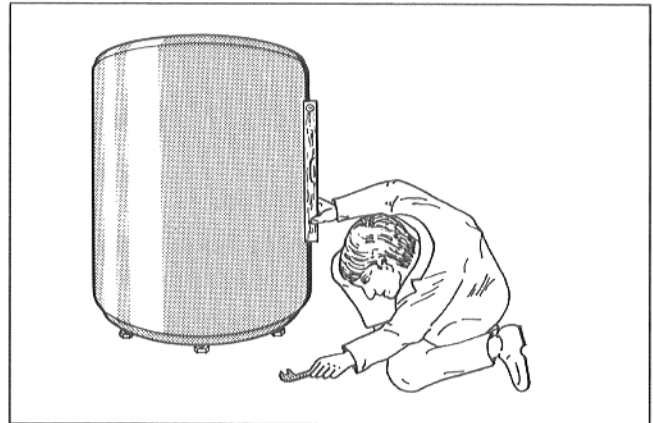

Fig. 5
- Align the storage tank by adjusting the screw-on feet (Fig. 5).